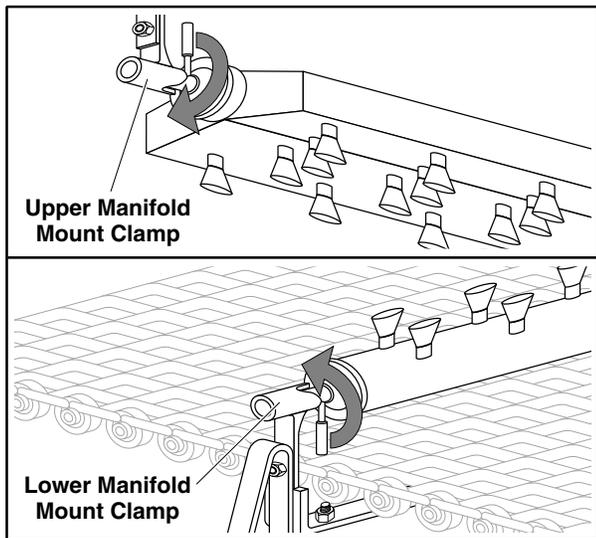

Figure 26: Scrapper Spray Manifold Mount Clamp
- a. Rotate the mounting clamp handle counterclockwise to release the Scrapper Spray Manifold (Figure 26).